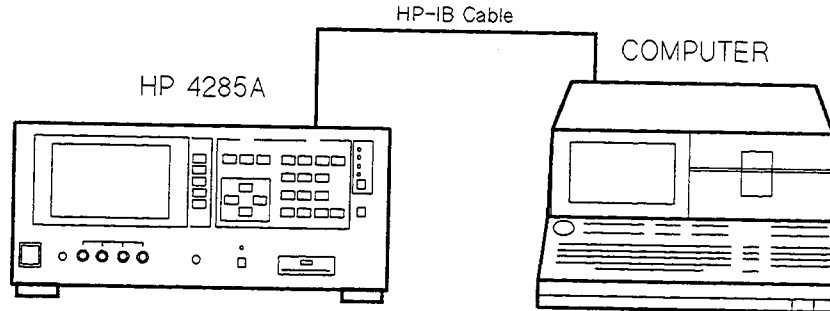

Figure 1-13. HP-IB Interface Test Setup
2. Set up the equipment as shown in Figure 1-13. Set the computer's interface Select Code to (7).